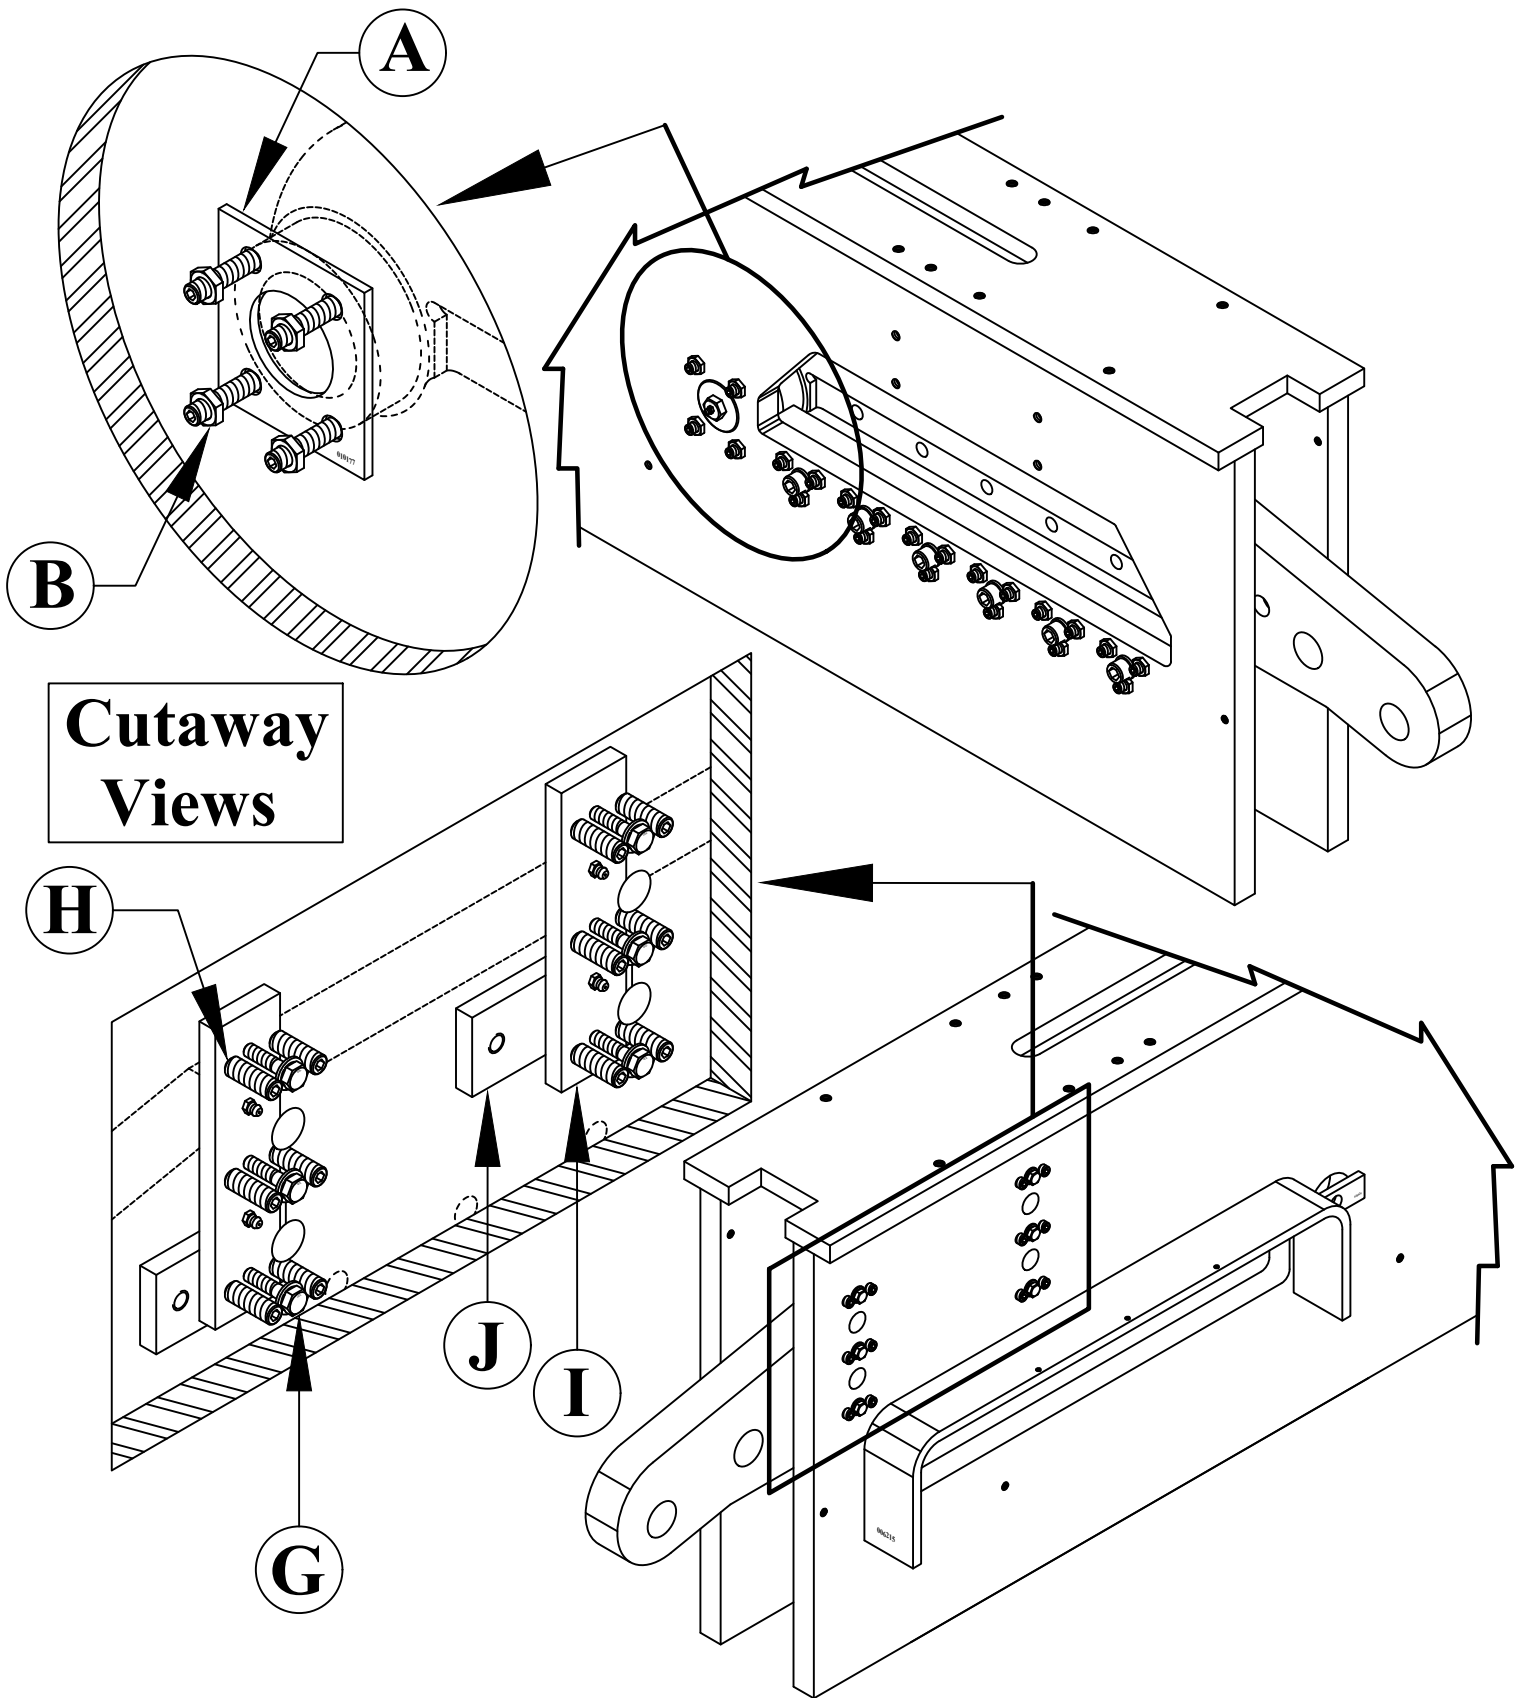

FIGURE 11
**SEE FIGURE 11 ON THE FOLLOWING PAGE.**
**Adjustment on the shear arm is maintained on the front (operator's) side by the pressure plate (A) and on the rear by the rub blocks (I & J). Your ironworker may have only one set of rub blocks (two are shown) but the procedure is the same. The cylinder cover shroud must be removed to gain visual access.**
- 2. Loosen the six adjusting screws (H) for each of the rub blocks (I) and remove the rub blocks by taking out the three mounting screws (G). (If excessive concave wear is noted on the rub blocks, they can be turned and the back surface used.) Set the pressure plate adjustment before resetting the rub blocks.**
- 3. For the pressure plate adjustment, loosen the lock nuts (B) on the four adjusting screws that engage the pressure plate (A).**
- 5. Replace the rub blocks (I). With the shear arm in the down position, tighten the bottom adjusting screws (H) until the rub blocks come in contact with the shear arm rub blocks (J). Raise the arm about half way and adjust the middle two adjusting screws (H) until the rub blocks make contact. Then, raise the arm completely and adjust the top two screws. (Once again, excessive tightening will cause unnecessary wear.) Check to be sure that the rub blocks (I) are in contact with the shear arm rub blocks (J) throughout the full stroke.**
- 6. Tighten the lock nuts on the pressure plate adjusting screws (B) and tighten the mounting screws (G) on the rub blocks.**